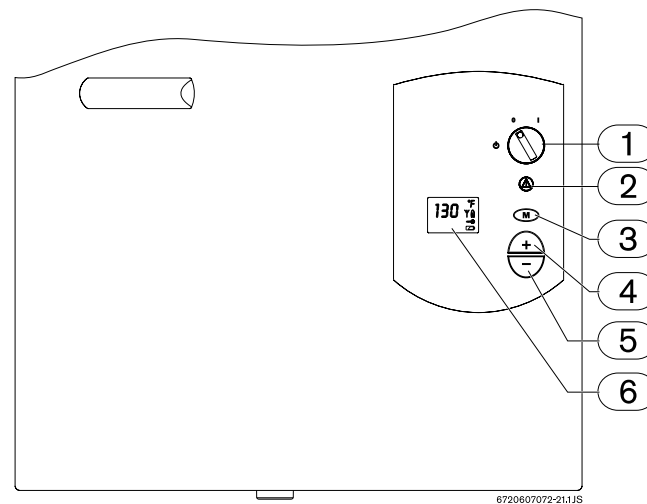

Fig. 26
- ▶ **2.** The gas valve must be shut off by putting the ON/OFF switch to position (0). Wait five (5) minutes to clear out any gas. If you smell gas, STOP! Follow "B" in the safety information above. If you do not smell gas, go to the next step.
- ▶ **4.** Set the ON/OFF switch to the (I) position. In this position, the water heater is ready to use.
**NOTE:** on a first time initial installation or after gas line work has been done, existence of air in the gas line will cause ignition delay when the hot water is turned on. This will result in an error (EA) on the units display screen. This is normal. When this occurs, leave the hot water running and wait 3-5 seconds, then reset the unit (Fig. 26, pos. 2). Wait for (EA) to disappear. The heater will begin to attempt ignition again, if the (EA) reappears then repeat this same process until all air has been bled from the gas line.